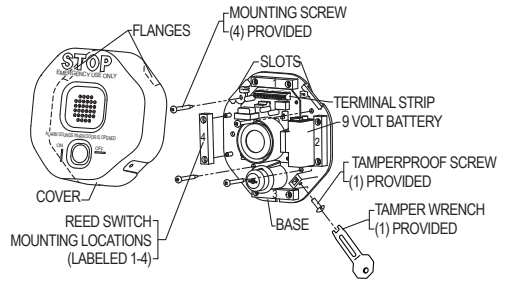

Figure 2
2. Remove tamper screw on the side of the unit using the tamper wrench provided. Remove housing cover. Save the tamper wrench for future service and battery replacement (Fig. 2).
3. Mount main unit on or next to the door using hardware provided. Reed switch may be moved to one of four positions shown in Fig. 2 or you may route the reed switch through the knockout in the bottom of the cover as shown in Fig. 3.